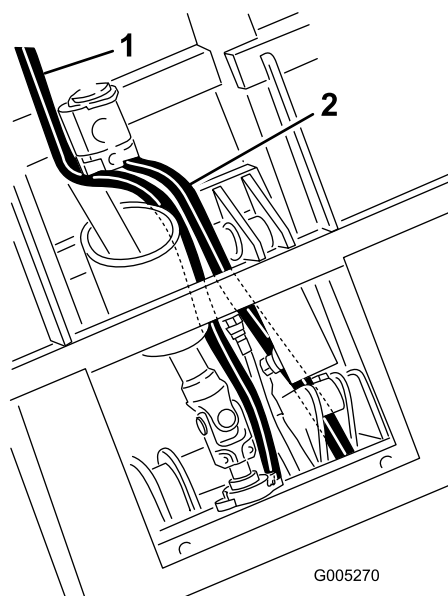

Figure 109
- Route the tank hose under the lift cylinder and between the cylinder mounting brackets to the valve (Figure 109).
- Route the pressure hose along side the PTO shaft to the valve (Figure 109).